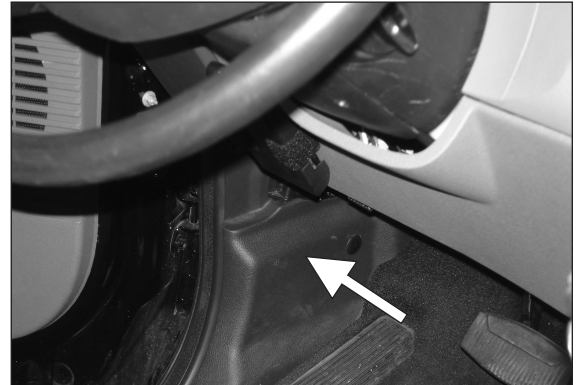

Figure 12
6. Remove the kick panel in front of the door just above the floor board for F-650/F-750 only (**Fig. 12**).